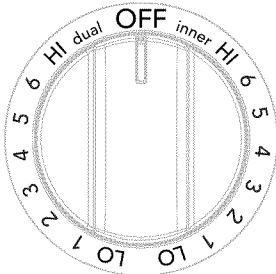

Figure 4: Dual element control for 9 or 12 inch burner
2. Push in and turn the control knob toward the inner element side for smaller cookware or to the dual element side for larger cookware (See Figure 4).